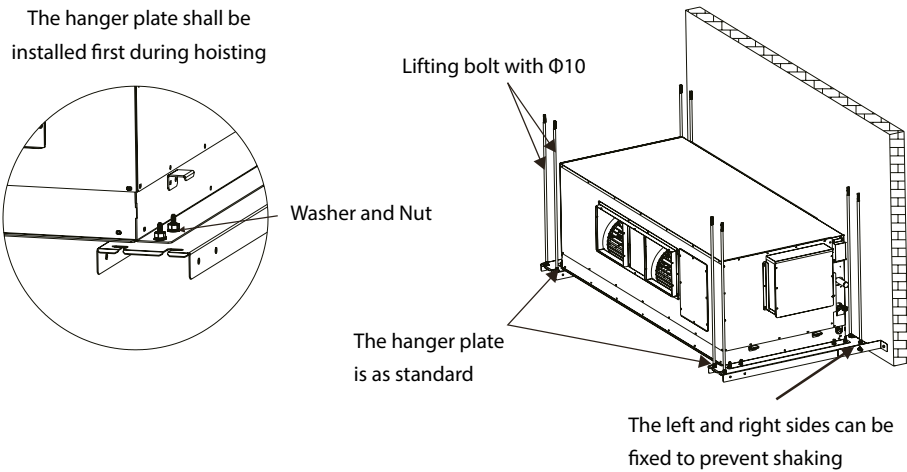

Figure 3.8
4. The high ESP ducted unit 35~56kW and the full fresh air 45~56kW need to be installed with hanger plate. The hanger plate is as standard. (The hanger plate should be installed during hoisting, and use eight lifting bolts with $\Phi 10$). Refer to Figure 3.8.